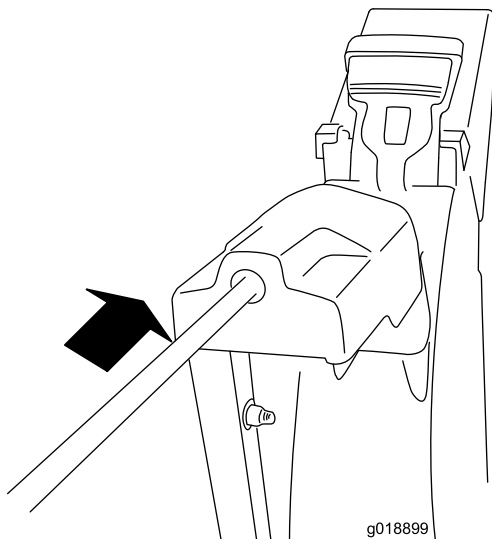

Figure 10
2. Insert the front end of the rod into the opening in the back of the chute gear cover until it slides into the chute gear (Figure 10).